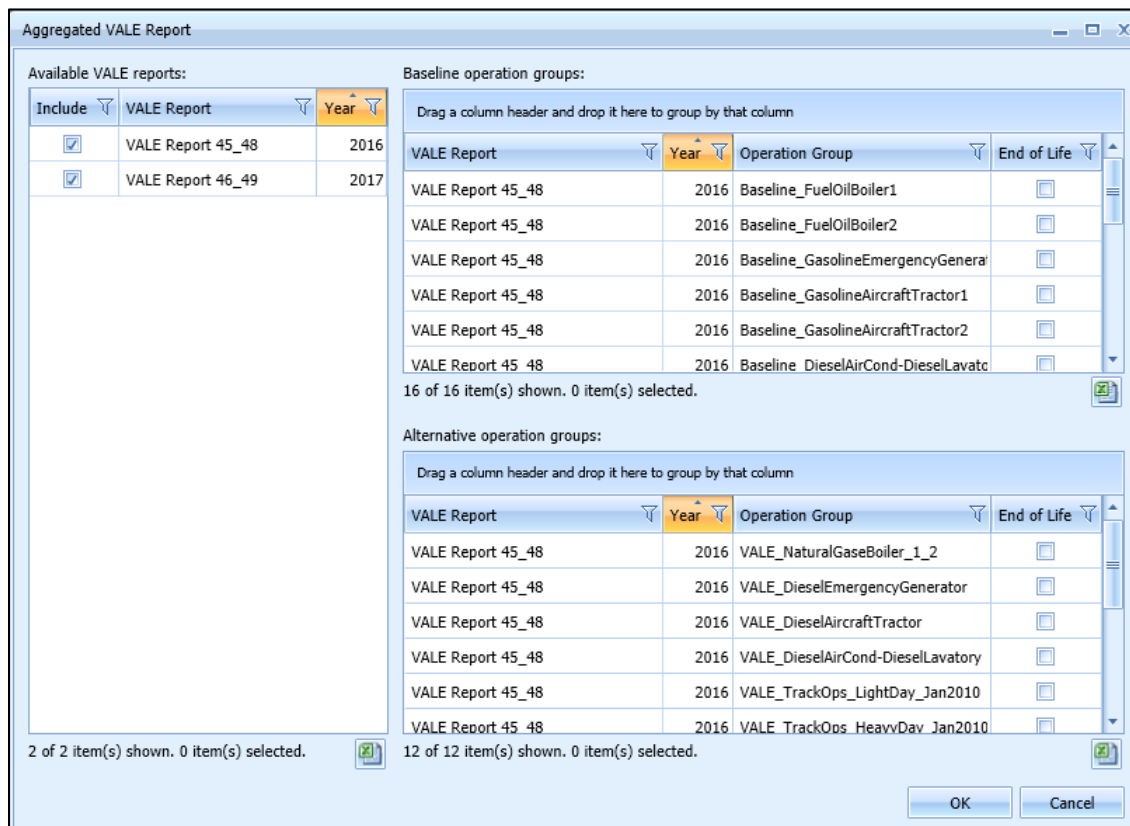

Figure 5-45 Sample Aggregated VALE Report Dialog
2. From the *Reports* ribbon group, click *Aggregated VALE Report* to open the *Aggregated VALE Report* dialog will (Figure 5-45).